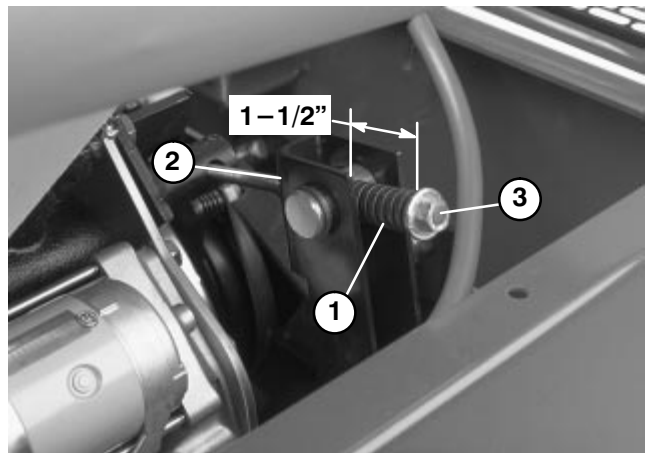
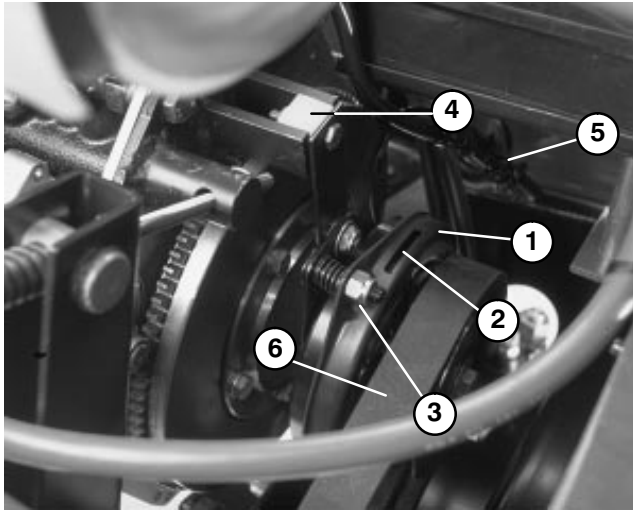

Figure 32
Figure 33
2. Loosen the tensioning rod jam nut (Fig. 32).
3. Use a 1/2" wrench to tighten or loosen the belt tensioning spring (Fig. 32). Adjust spring to a length of 1-1/2" (38 mm).
3. Using a 1/2" wrench, loosen the belt tensioning spring (Fig. 32) all the way.
4. Rotate PTO pulley toward the engine and remove the belt (Fig. 33).
5. Install the new PTO belt and re-tension the pulley spring to 1-1/2" (38 mm) (Fig. 32).
6. Tighten the jam nut (Fig. 32) and close the hood.
2. Remove bolt, washer and nut securing nylon block and remove nylon block (Fig. 33).
3. Unplug clutch electric connector (Fig. 33).
4. Adjust the air gap so that a .015 inch feeler gauge slides in between the clutch lining and friction plate with light pressure (Fig. 33). The gap can be decreased by turning the adjusting nut clockwise (Fig. 32).